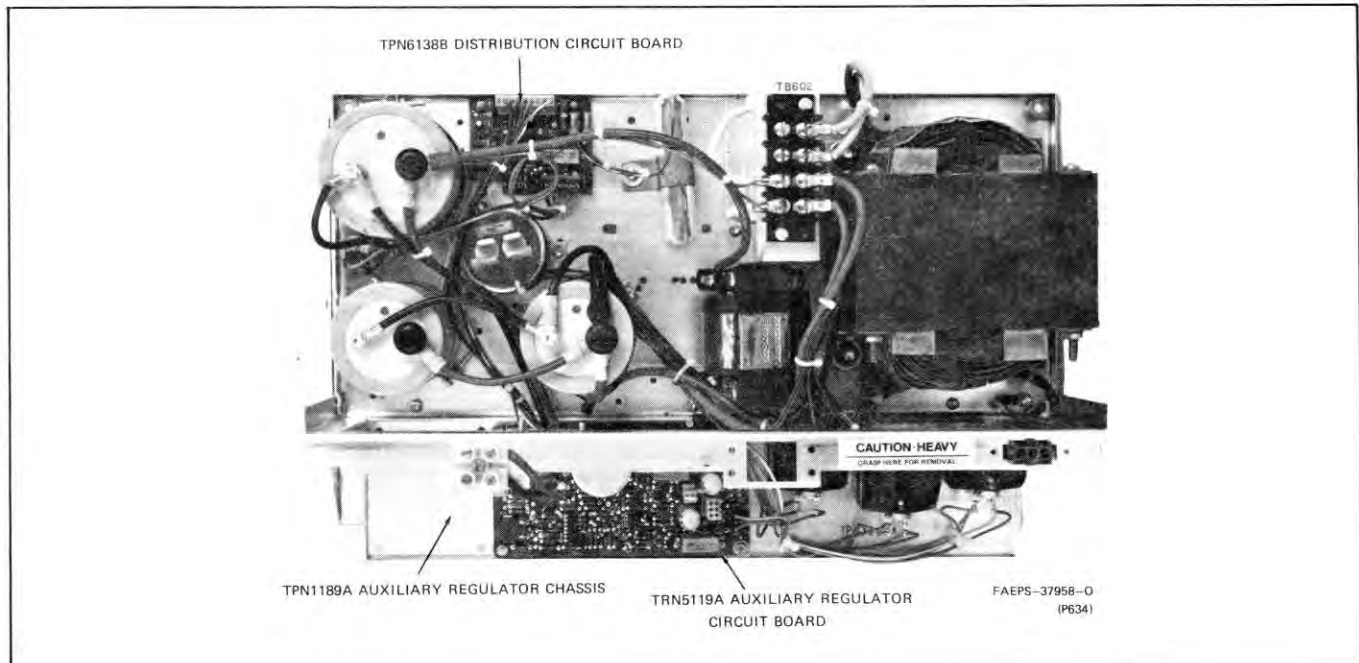

Figure 1. Model TPN1191A Standard Power Supply
1. DESCRIPTION (Refer to Figure 1)